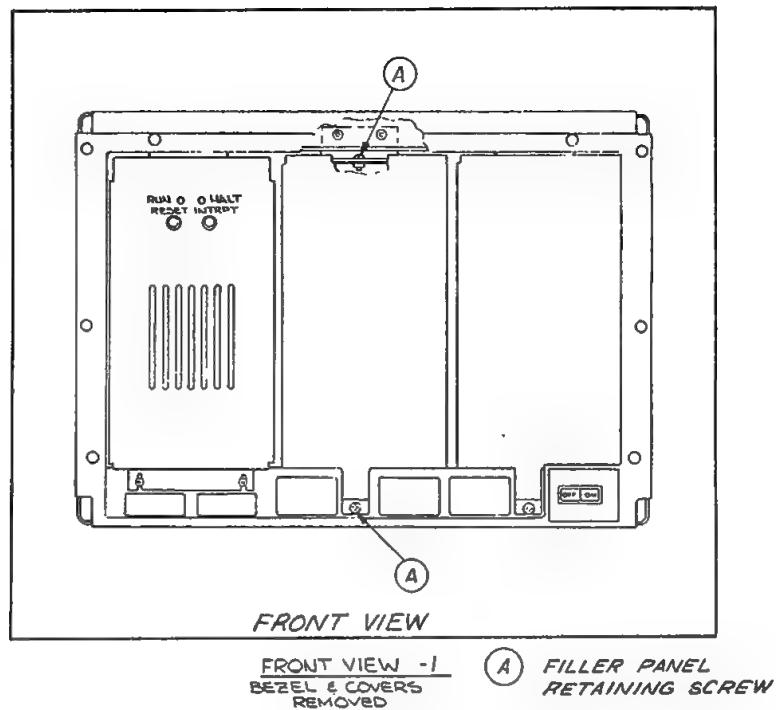

Figure 2-10. Front Filler Panel Installation
- Remove the front filler panel covering the opening to be used for the installation of the peripheral. Each panel is attached with two screws, one at the bottom and one at the top of the panel, see Figure 2-10.